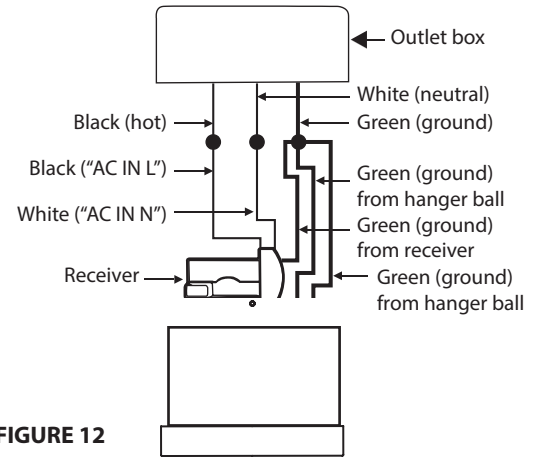

FIGURE 12
3. Connect the fan assembly ground wire, mounting bracket ground wire and receiver ground wire to the ground wire in outlet box (Fig. 12).